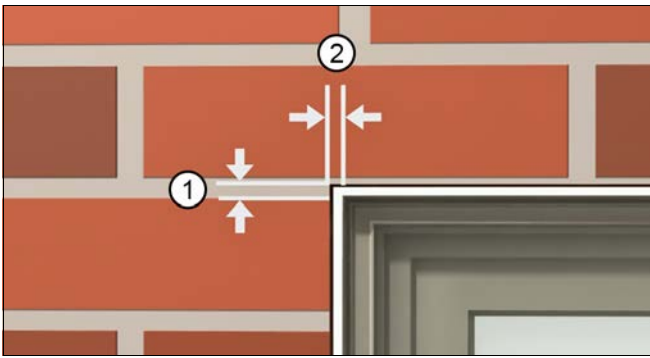

Figure 3 Typical Masonry Opening
3. Masonry openings (MO) should be 1/2" (13) wider than the outside measurement of the frame and casing and 1/4" (6) higher than the outside measurement of the frame or casing. See Figure 3.